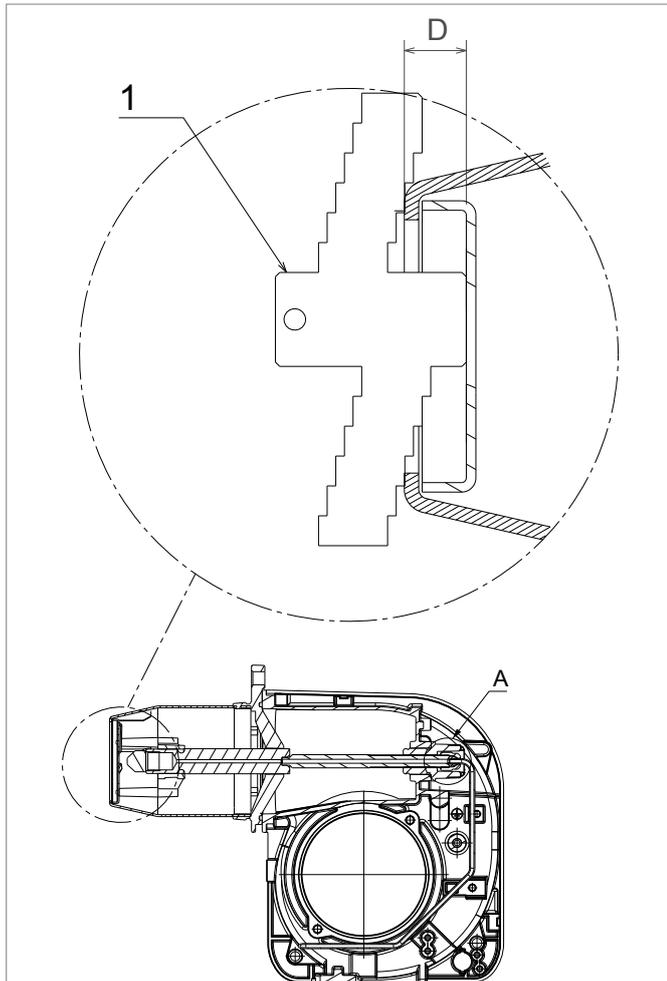

**Figure 10-3:** Ignition electrode settings
9. Check/adjust electrode setting. Refer to Figure 10-3.